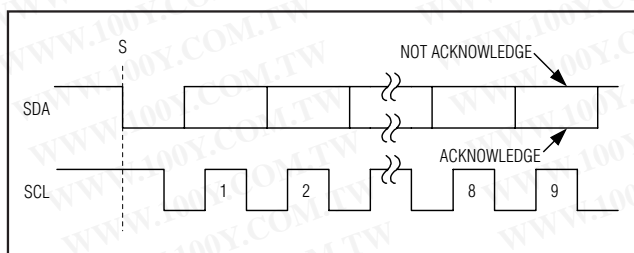

Figure 6. Acknowledge Bits
Data transfers are acknowledged with an acknowledge bit (A) or a not-acknowledge bit ( $\bar{A}$ ). Both the master and the MAX1136-MAX1139 (slave) generate acknowledge bits. To generate an acknowledge, the receiving device must pull SDA low before the rising edge of the acknowledge-related clock pulse (ninth pulse) and keep it low during the high period of the clock pulse (Figure 6). To generate a not-acknowledge, the receiver allows SDA to be pulled high before the rising edge of the acknowledge-related clock pulse and leaves SDA high during the high period of the clock pulse. Monitoring the acknowledge bits allows for detection of unsuccessful data transfers. An unsuccessful data transfer happens if a receiving device is busy or if a system fault has occurred. In the event of an unsuccessful data transfer the bus master should reattempt communication at a later time.